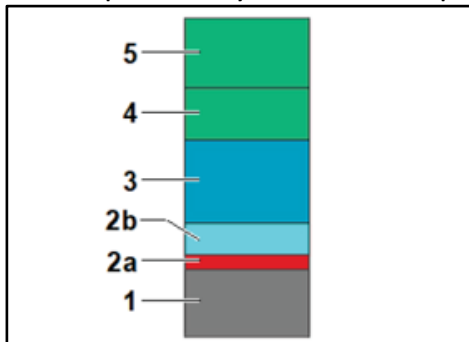

Fig.1: Maximum permissible layer structure for new part and repair paintwork
- For parts already painted, only an additional one-off paintwork structure with the brand's radar-compatible base coat formulations (see "radar-compatible" symbol in the respective mixing bench) and a maximum of two clear coat applications is permitted (see Fig. 1 "Maximum permissible layer structure for new part and repair paintwork").